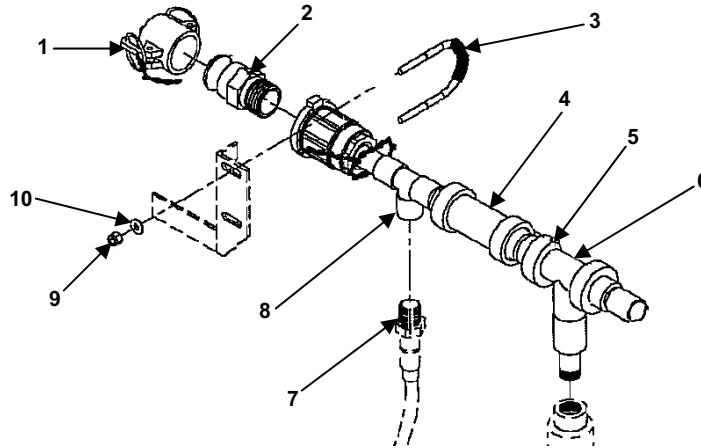

Figure 3. Product Outlet Piping.
1. Loosen union (Figure 3, item 5) on the 3-way valve (Figure 3, item 6).
2. Remove U-bolt (Figure 3, item 3) by removing nuts (Figure 3, item 9) and washers (Figure 3, item 10).
3. Remove anti-siphon valve (Figure 3, item 7) from tee fitting (Figure 3, item 8).
5. Remove dust cap (Figure 3, item 1) and male camlock (Figure 3, item 2) and check valve (Figure 3, item 4) if necessary.